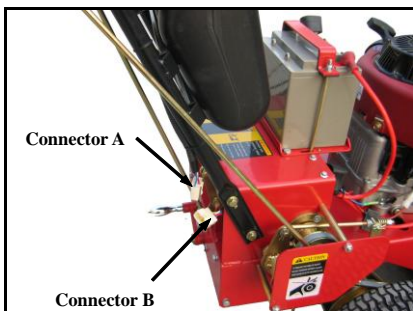

FIG 2 Electric Start Controls
For the Electric Start Mower, FIG 2, plug the Connector A on the Handlebar into the Connector B on the Engine Frame, refer to the Wiring Harness Diagram, page 8.
1. Be sure that Mower Blade Drive Lever is disengaged and both Brake Latches are locked. FIG 2